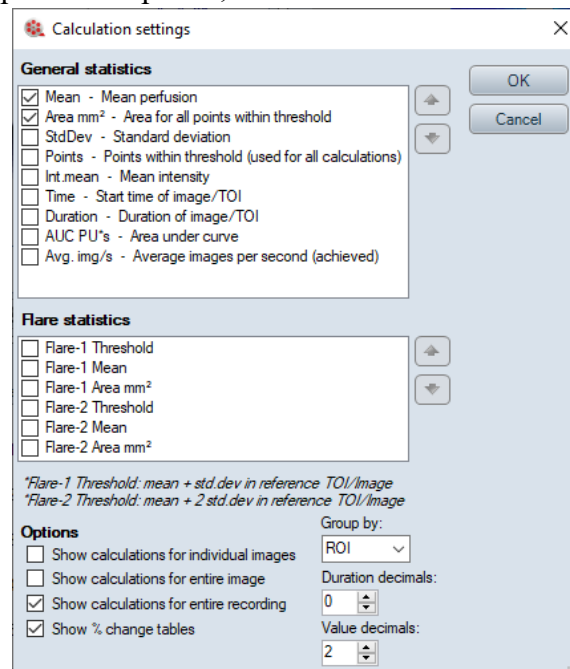

Figure 7-15 Calculation settings..
2. Click the *Settings* button below the general table in the Graph area. The *Calculation settings* dialog is displayed, see Figure 7-15.